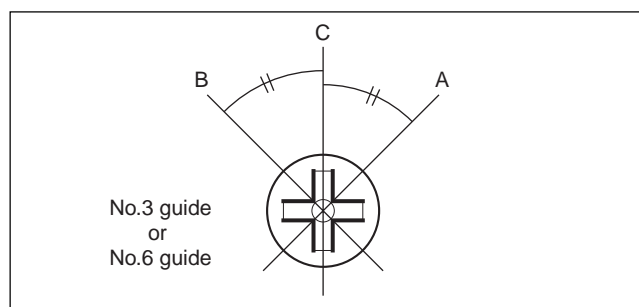

Fig. 6-2-5
- 6) Turn the No.3 guide slowly in the clockwise direction and set up in the angle (C) in the middle of the rotation angle (A) and the rotation angle (B). (Fig. 6-2-5)
- 10) Turn the No.3 guide slowly in the clockwise direction and set up in the angle (C) in the middle of the rotation angle (A) and the rotation angle (B). (Fig. 6-2-5)